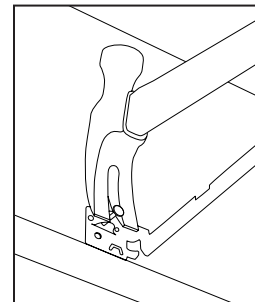

Figure 6
**Relocating Fixture** – Nail can be removed with hammer claw to allow easy repositioning of fixture without damaging bar hanger or nail (Fig. 6).